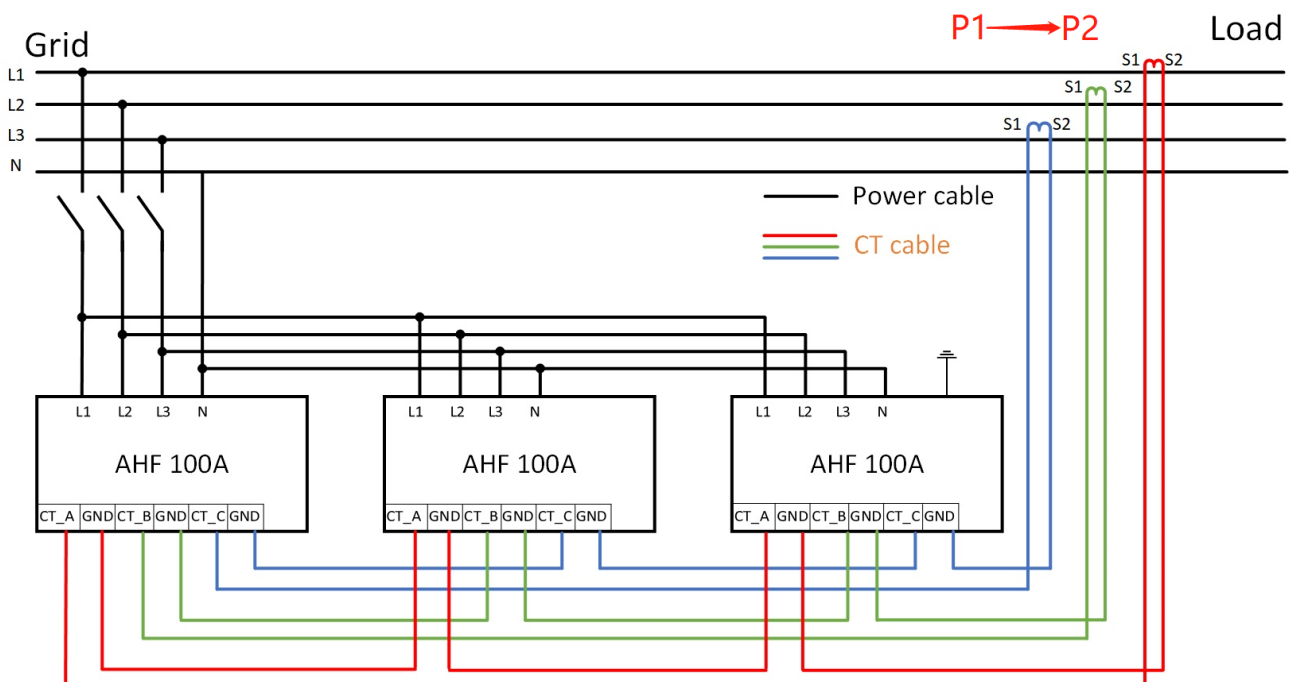

Figure1 Load side
- There are 2 kinds of CT installation locations: 1) load side, 2) supply side. They have different wiring diagrams which are shown in Figure1 and Figure2. Meanwhile, they have corresponding settings in the 4.3 inches monitor. When you choose load side CT location, make sure you have set the CT location right in the monitor.